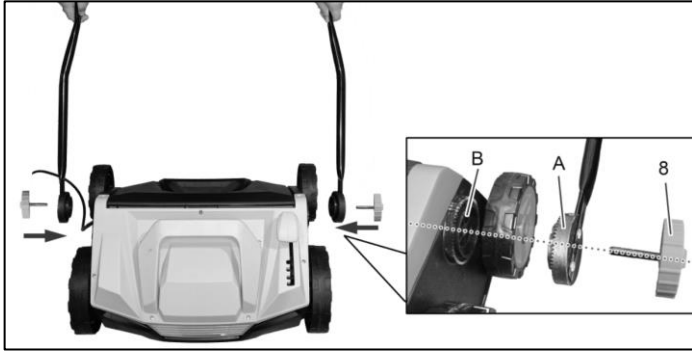

Fig. 1
- Align the ratchet of the lower handle (A) with the ratchet on machine body (B), fixed the lower handle (13) with knob (8). (Fig. 1)